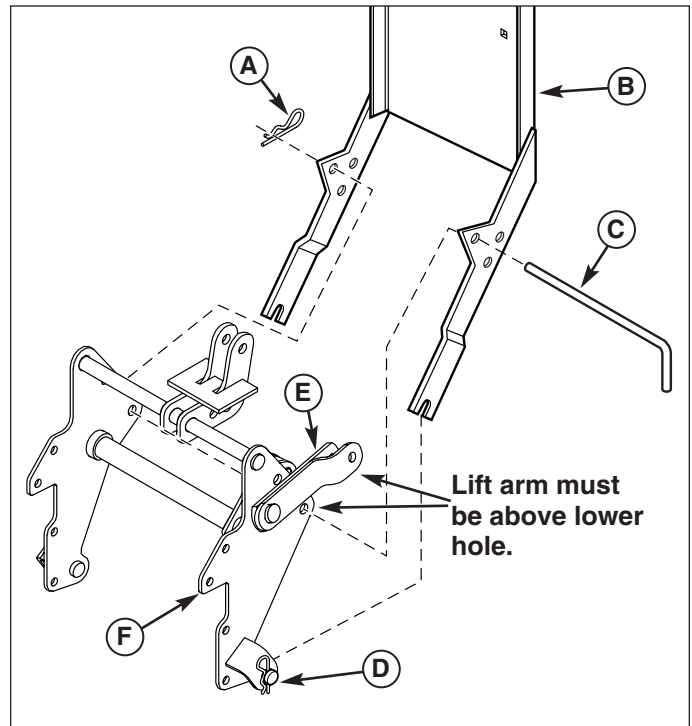

Figure 20. Install Back Plate, with 3-Point Hitch
1. Set the front and back plate assembly on the clevis pins (Figure 20).
2. Secure with the hitch pin (C, Figure 20).